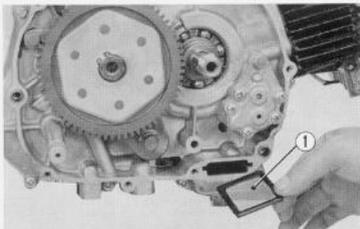

Fig. 5.13 Removing oil filter screen ① Oil filter screen
- Remove the right crankcase cover, pull out the oil screen and wash in gasoline. (Fig. 5.13)